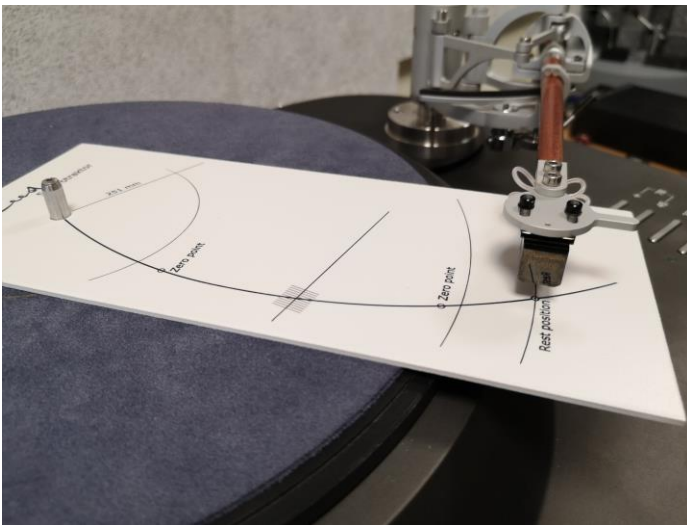

Figure 25
- Needle of the cartridge should match zero points on the protractor. (Figure 25)